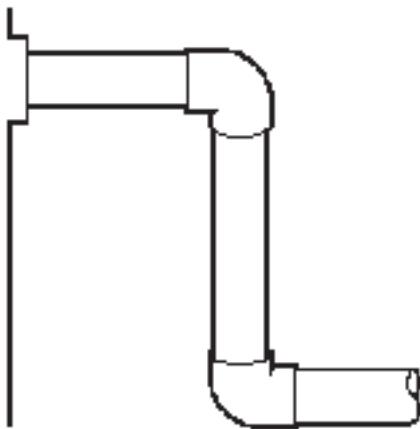

Fig. 8: Plumbing
**CAUTION** (Models 926-1223): NEVER install PVC directly into heater. Four feet of copper or high temperature pipe and two elbows are required between the heater and the PVC connections. See Fig. 8 below.